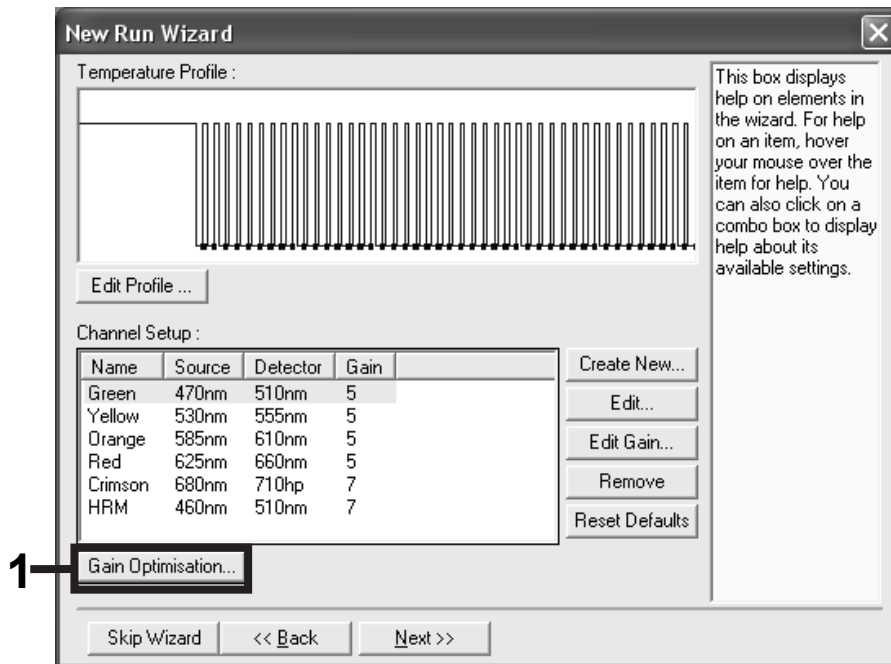

Figure 10. Gain optimization.
13. In the next dialog box, click the “Gain Optimisation” button (Figure 10).